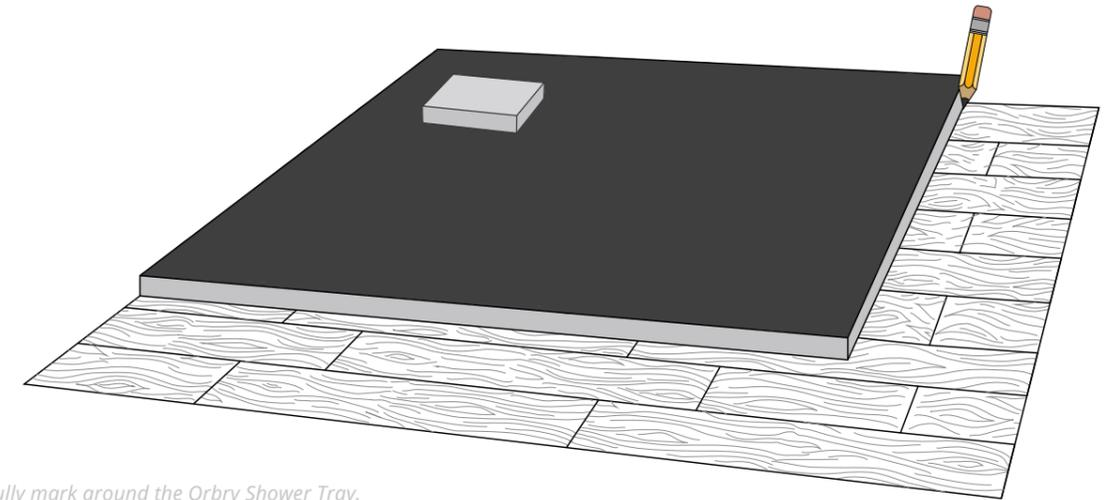

Fig. 6
2. Carefully mark around the Orbry Shower Tray (Fig.6).